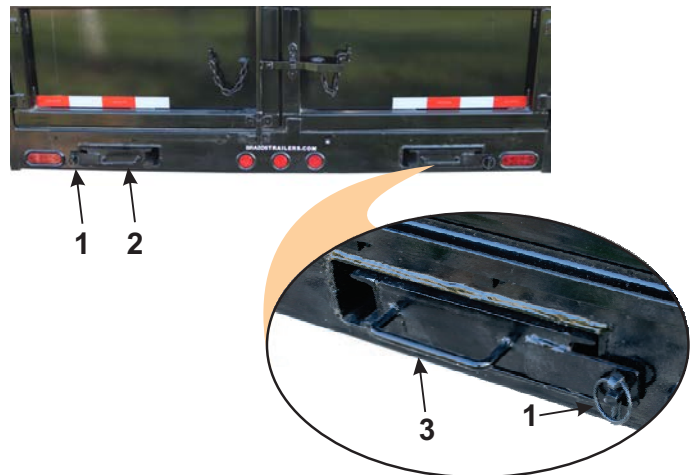

Figure 3-3 – Trailer Ramps Stored and Secured
9. Make sure that both trailer ramps (2, 3, Figure 3-3) are properly stored and each one is secured with a quick clip (1, Figure 3-3). Make sure the ring on the quick clip is in the downward locked position.